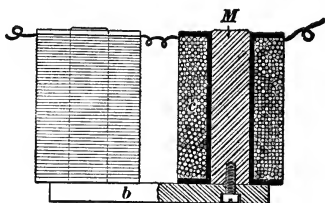
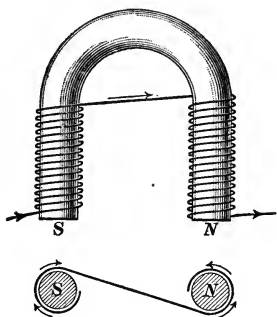

FIG. 29.
FIG. 30.
**32.** The most convenient form of electromagnet for a great variety of uses is the *horseshoe*, or *U-shaped*, electromagnet, Fig. 30. It consists of a bar of iron bent into the shape of a horseshoe with straight ends and provided with two magnetizing coils, one on each end of the magnet. The two ends which are surrounded by the coils are the *cores* of the magnet, and the arc-shaped piece of iron joining them together is known as the *yoke* of the magnet. The ordinary *U-shaped* electromagnet is made in three parts, namely, two iron cores wound with the magnetizing coils, and a straight bar of iron joining the two cores together for a yoke,
as shown in Fig. 29. In looking at the free ends of the two cores, Fig. 30, the current should circulate around one core in an opposite direction to that around the other. If the current circulates around both cores in the same direction, the lines of force produced in the two cores, respectively, oppose one another, forming two like poles at their free ends and a *consequent pole* in the yoke. The total number of lines of force produced by both coils will be greatly diminished,